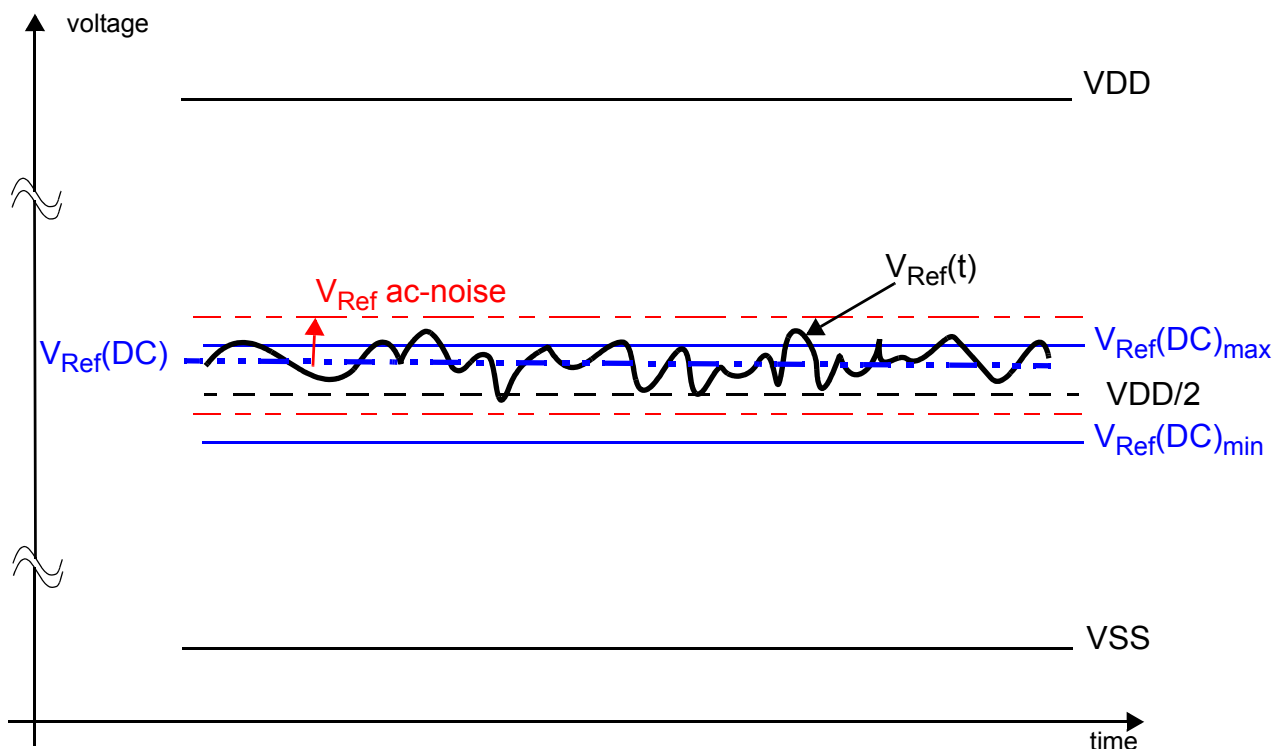

Figure 2. Illustration of $V_{\text{Ref}}(\text{DC})$ tolerance and V_{Ref} ac-noise limits
The dc-tolerance limits and ac-noise limits for the reference voltages V_{RefCA} and V_{RefDQ} are illustrated in Figure 2 Illustration of VRef(DC) tolerance and VRef ac-noise limits. It shows a valid reference voltage $V_{\text{Ref}}(t)$ as a function of time. (V_{Ref} stands for V_{RefCA} and V_{RefDQ} likewise). VDD stands for VDDCA for V_{RefCA} and VDDQ for V_{RefDQ} . $V_{\text{Ref}}(\text{DC})$ is the linear average of $V_{\text{Ref}}(t)$ over a very long period of time (e.g. 1 sec). This average has to meet the min/max requirements in Table 16 Single-Ended AC and DC Input Levels for CA and CS inputs. Furthermore $V_{\text{Ref}}(t)$ may temporarily deviate from $V_{\text{Ref}}(\text{DC})$ by no more than $\pm 1\%$ VDD. $V_{\text{Ref}}(t)$ cannot track noise on VDDQ or VDDCA if this would send Vref outside these specifications.
" V_{Ref} " shall be understood as $V_{\text{Ref}}(\text{DC})$, as defined in Figure 2 Illustration of VRef(DC) tolerance and VRef ac-noise limits.